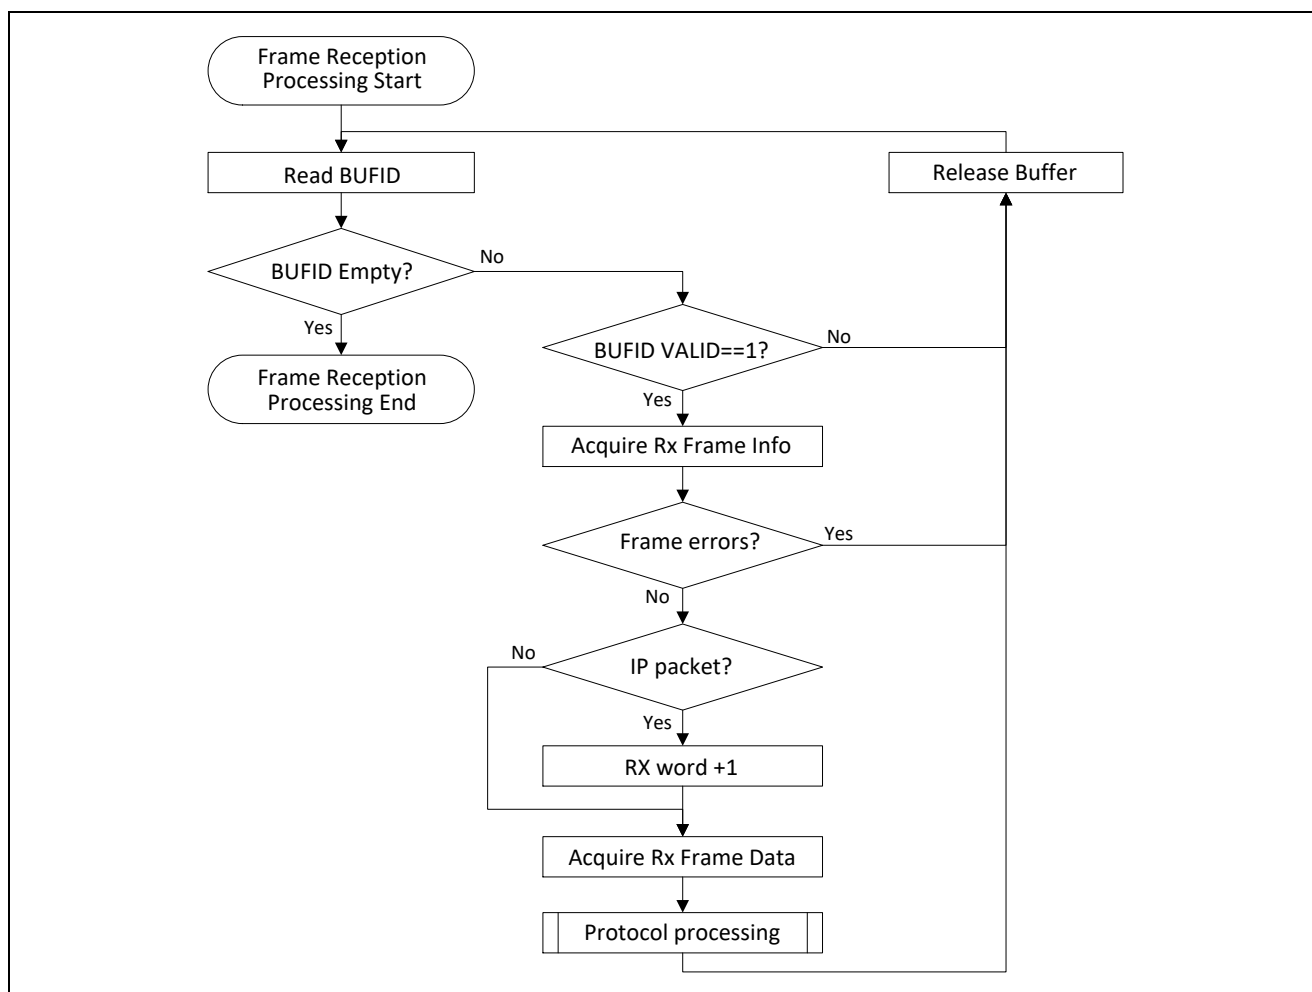

Figure 12.32 Flowchart of Reception processing
- To avoid lack of the IP packet, increase reception word size by 1 and transfer the size to protocol stack. In the protocol stack, payload data should be extracted based on size of Total Length field in IP header and the rest data should be discarded. Figure 12.32 is the flowchart of this workaround.